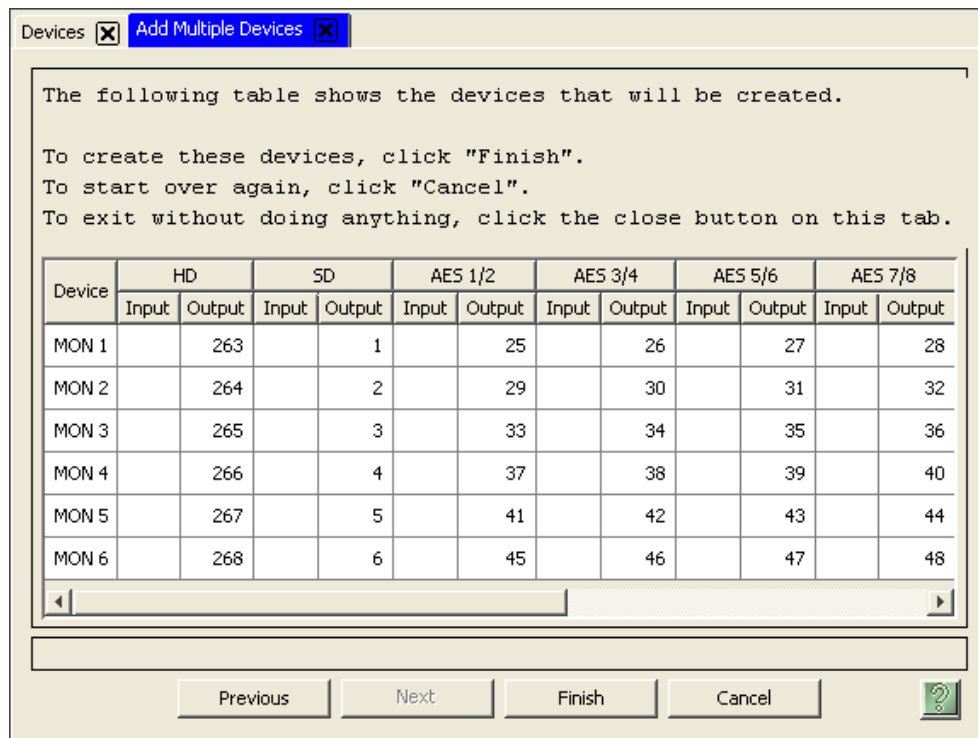

Figure 9-5. Add Multiple Devices Verification Page
- 7 Click Next. The 'Add Multiple Devices Verification' page appears, as shown in Figure 9-5.